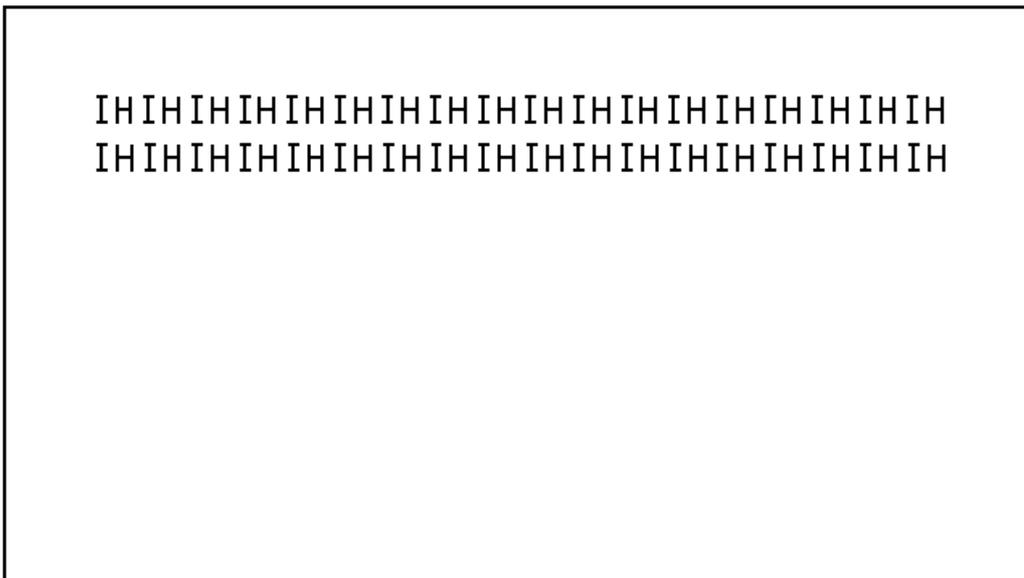

Figure 5-4. Printer Stand-Alone Test Pattern
7. Press the **T** button to print an **IH...** pattern of 36 characters at the customer receipt station and the journal station. See Figure 5-4.